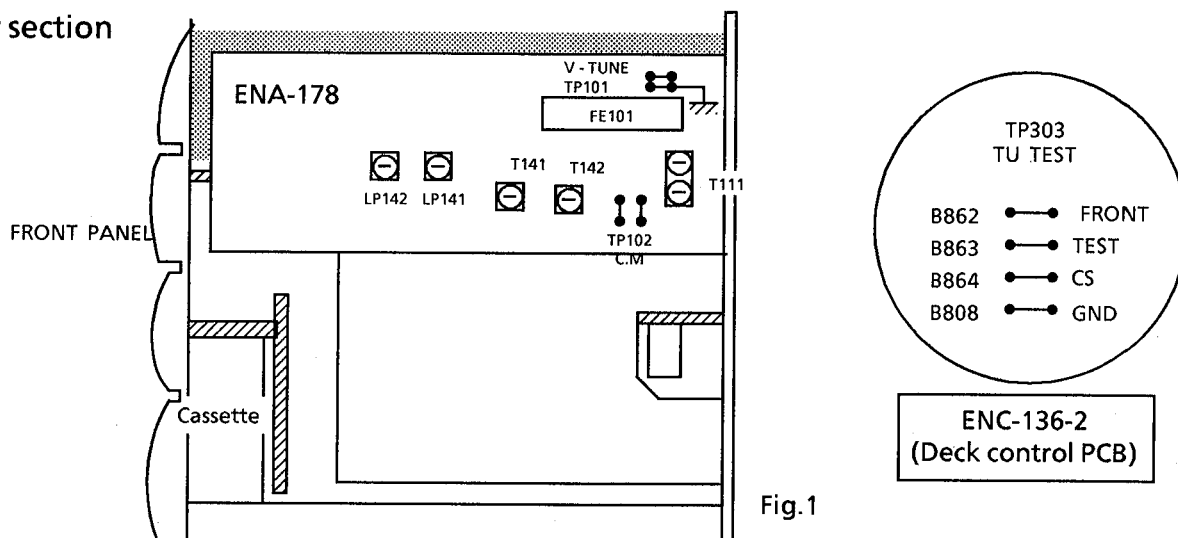

Fig.1
(2) Life of the laser diode (Fig.1)
(Fig. 1)